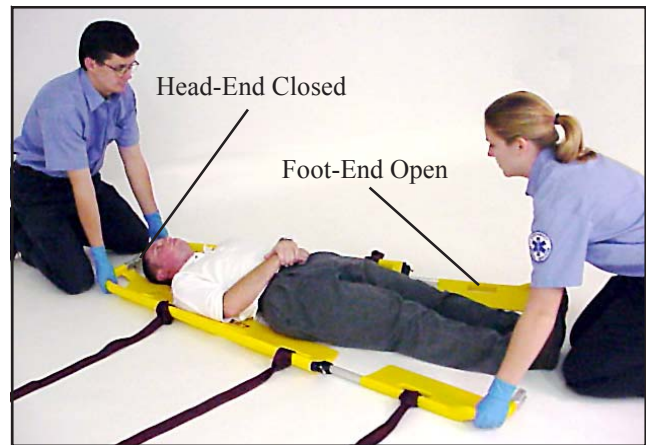

Figure 8 - Applying Stretcher in “V” Configuration
4. Position the stretcher with the patient’s head at the coupled head-end of the stretcher (Figure 8).